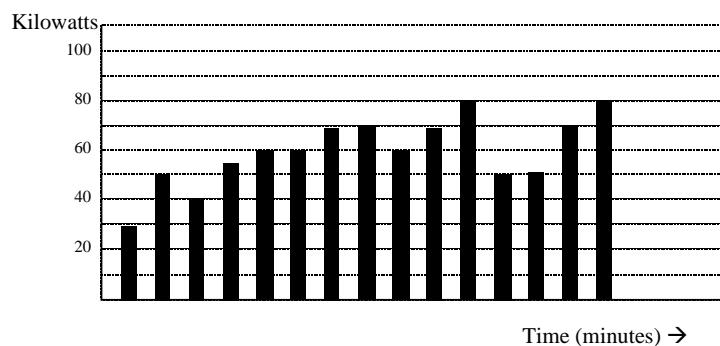

Figure 1.7: Power use over time
- Figure 1.7 shows a graph of power and the resulting energy that would be transmitted as a result of the illustrated power values. For this illustration, it is assumed that the power level is held constant for each minute when a measurement is taken. Each bar in the graph will represent the power load for the one-minute increment of time. In real life the power value moves almost constantly.
- The data from Figure 1.7 is reproduced in Table 2 to illustrate the calculation of energy. Since the time increment of the measurement is one minute and since we specified that the load is constant over that minute, we can convert the power reading to an equivalent consumed energy reading by multiplying the power reading times 1/60 (converting the time base from minutes to hours).
As in Table 1.2, the accumulated energy for the power load profile of Figure 1.7 is 14.92 kWh.
- Demand is also a time-based value. The demand is the average rate of energy use over time. The actual label for demand is kilowatt-hours/hour but this is normally reduced to kilowatts. This makes it easy to confuse demand with power. But demand is not an instantaneous value. To calculate demand it is necessary to accumulate the energy readings (as illustrated in Figure 1.7) and adjust the energy reading to an hourly value that constitutes the demand.